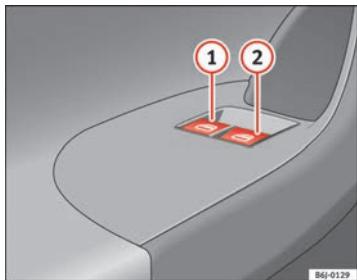

Fig. 48 Detail of driver door: controls for the front windows.
Buttons ⇒ page 81, fig. 48 ① and ② have two positions for opening the windows and two for closing them. This makes it easier to open and close windows to the desired position.